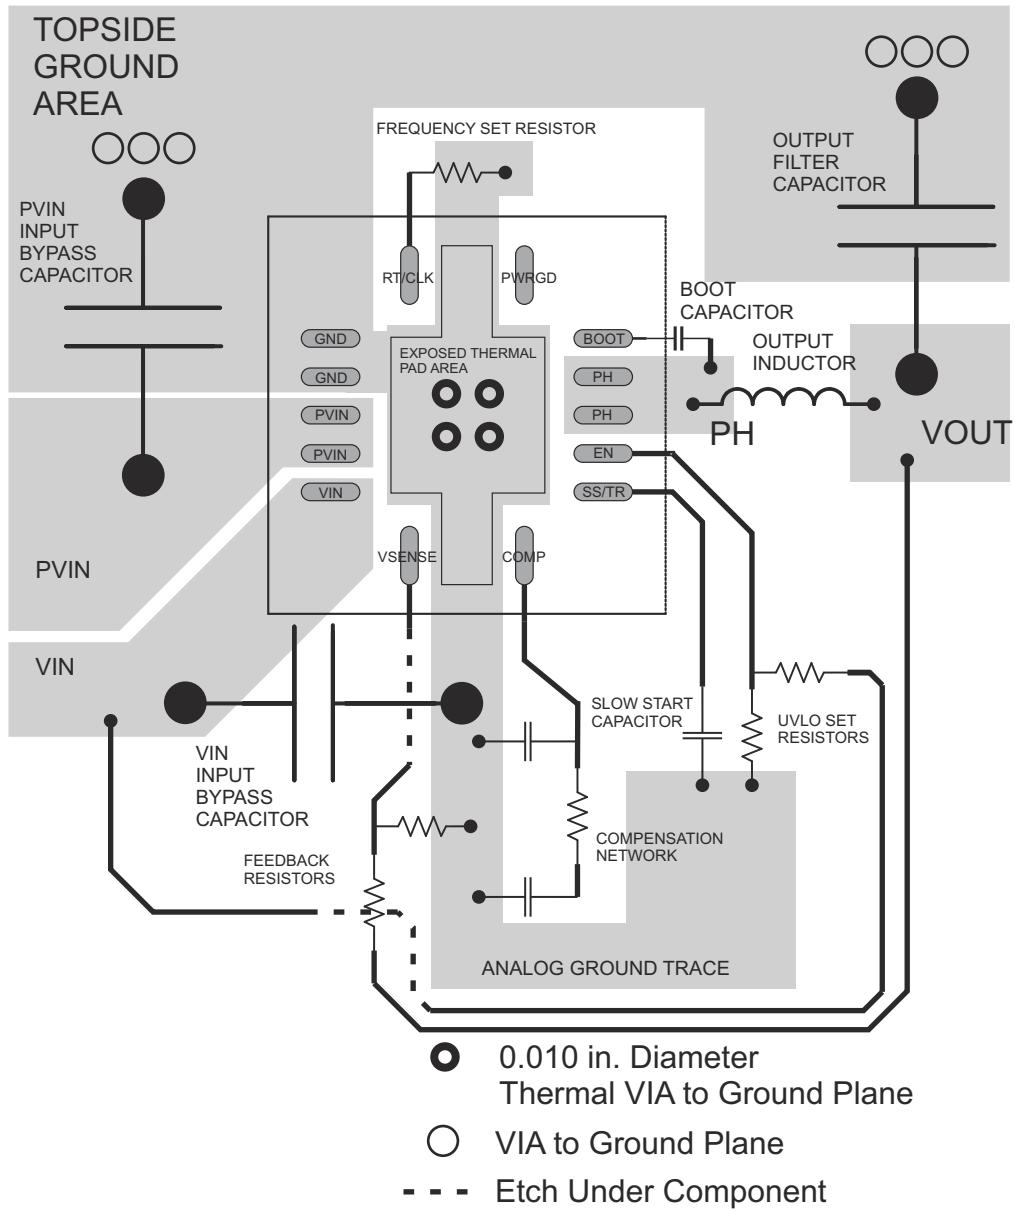

图 10-1. PCB Layout
The TPS54622-EP is designed to operate from an input voltage supply range from 4.5 V to 17 V. This supply voltage must be well regulated. Power supplies must be well bypassed for proper electrical performance. This includes a minimum of one 4.7- $\mu$ F (after derating) ceramic capacitor, type X5R or better from PVIN to GND, and from VIN to GND. Additional local ceramic bypass capacitance may be required in systems with small input ripple specifications, in addition to bulk capacitance if the TPS54622-EP device is located more than a few inches away from its input power supply. In systems with an auxiliary power rail available, the power stage input, PVIN, and the analog power input, VIN, may operate from separate input supplies. See 图 10-1 for recommended bypass capacitor placement.
- Layout is a critical portion of good power supply design. See 图 10-1 for a PCB layout example.